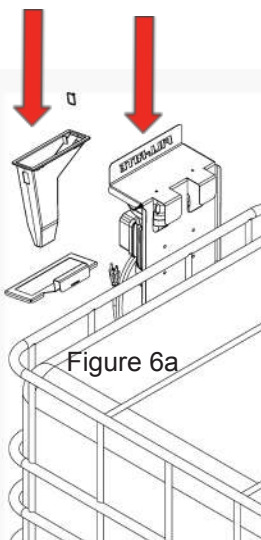

Figure 6a
6. Hook Nozzle Bracket to IBC Cage at preferred location. Secure to cage with included tie strap (Figure 6a).
7. Insert Nozzle Reservoir into Nozzle Bracket and snap into opening. Add water to reservoir to prevent urea crystallization in nozzle (Figure 6a).